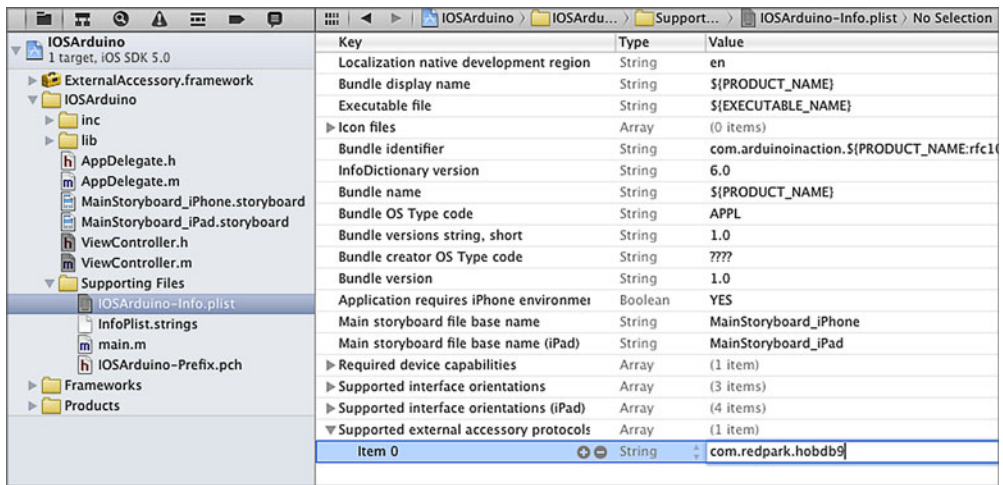

Figure 10.13 Declaring support for the Redpark serial cable
The final step of the Xcode application, from a tip by Brian Jepson, is to declare support for the Redpark serial cable. In the project navigator, expand the Supporting Files group and click `IOSArduino-Info.plist` to open it. Right-click the bottom row, and from the context menu select **Add Row**. Select **Supported External Accessory Protocols** from the list. Click the triangle to the left of the key name to open up the list. In the value field for item 0, type `com.redpark.hobdb9` (see figure 10.13). Select **File > Save** from the menu to save the file.